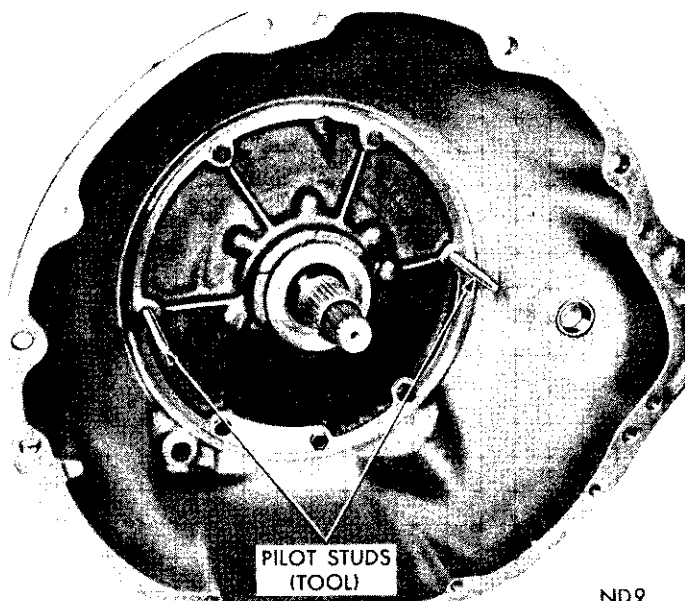

Fig. 75—Installing Pump and Reaction Shaft Support Assembly
(1) Screw two pilot studs, Tool C-3288 in oil pump opening in the case (Fig. 75). Install a new gasket over the pilot studs.
(2) Place a new rubber seal ring in the groove on outer flange of pump housing. Make sure seal ring is not twisted. Coat seal ring with grease for easy installation.
(3) Install pump assembly in the case, tap it lightly with a soft mallet if necessary. Place the deflector over vent opening and install four pump body bolts. Remove pilot studs, install remaining bolts and snug all bolts down evenly.